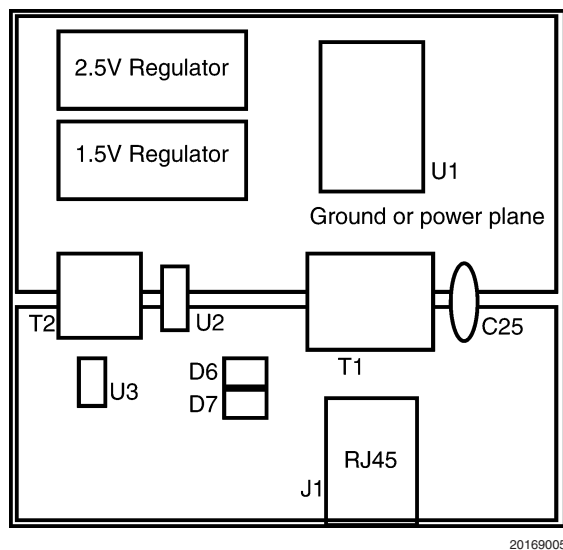

FIGURE 5. PoE Layout Planning
5. The 1.8 V supply provides power to both the digital core and the sensitive analog receivers. The 1.8 V regulator should be placed as close to the MDI side of the PHY as possible to avoid noise from the digital core return (Figure 5)